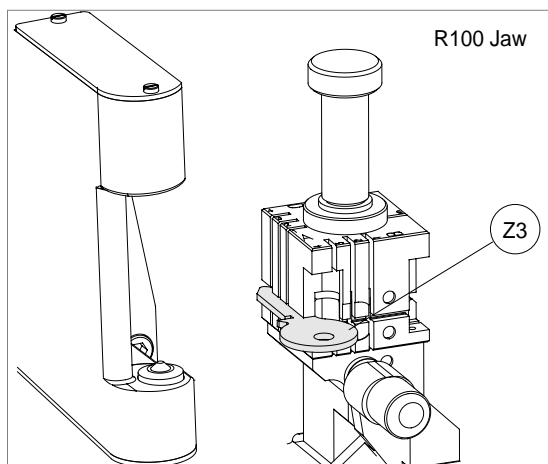

Fig. 27
- 2) fit the (Z3) template to side A of jaw R100 (fig. 27).